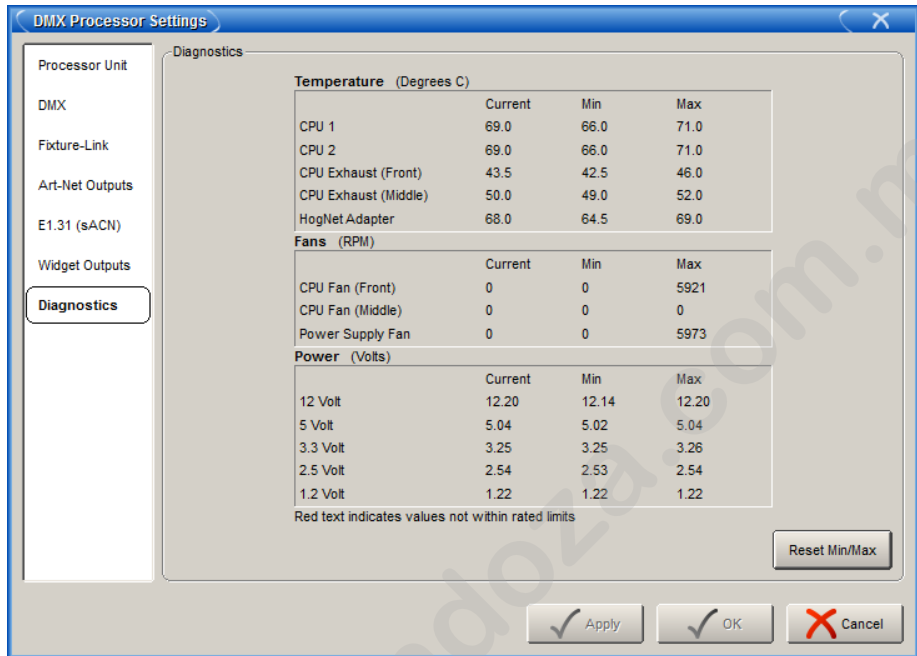

Figure 36.1. The Diagnostics pane of the DMX Processor Settings window
3. Select the Diagnostics pane; see *Figure 36.1, “The Diagnostics pane of the DMX Processor Settings window”*.